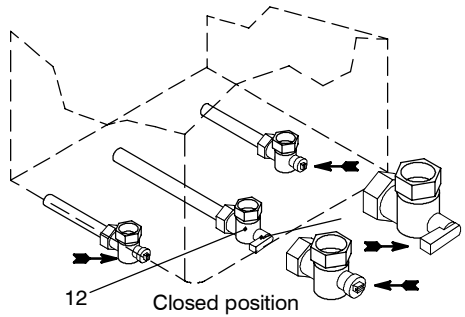

Fig. 2.8
- 2 Shut off the gas supply cock 12 and the valves for the water circuits fitted under the boiler (Fig. 2.8).
shut off the valves positioned under the boiler (Fig. 2.8 on page 6) and call an Authorised Service Centre Engineer.